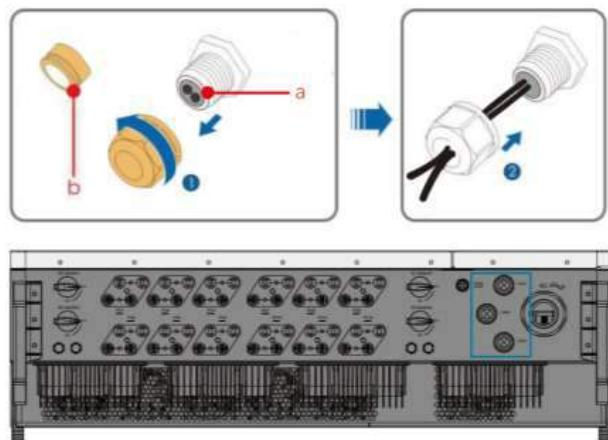

Fig. 4-49 Thread the cable into the lock nut
- 3) Thread the cable into the lock nut and sealing ring in turn (Fig. 4-49 and Table 4-12).).